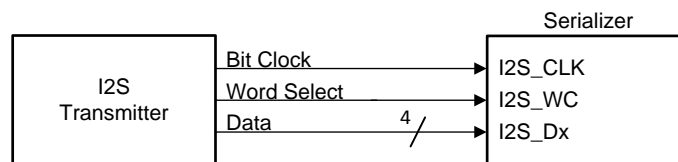
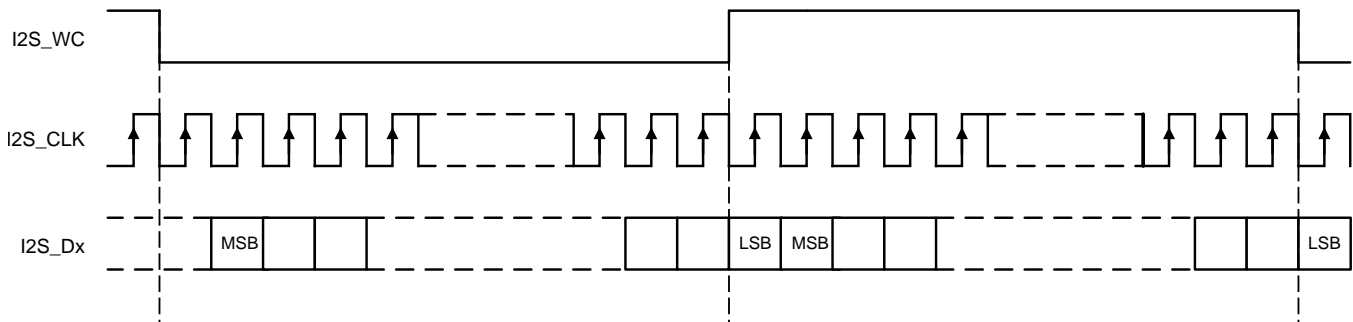

Figure 15. I2S Connection Diagram
Figure 16. I2S Frame Timing Diagram
The DS90UH949A-Q1 serializer features six I2S input pins that, when paired with a compatible deserializer, supports 7.1 High-Definition (HD) Surround Sound audio applications. The bit clock (I2S_CLK) supports frequencies between 1 MHz and the lesser of IN_CLK/2 or 13 MHz. Four I²S data inputs transport two channels of I2S-formatted digital audio each, with each channel delineated by the word select (I2S_WC) input. Refer to Figure 15 and Figure 16 for I2S connection diagram and timing information.